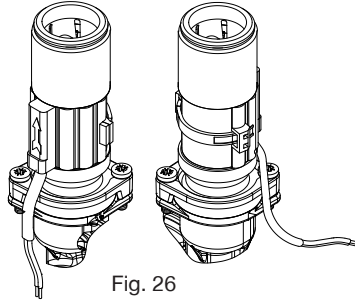

Fig. 26
- The tie wrap can now be pulled tight to secure the reed and excess cut to length as shown (Fig. 26)